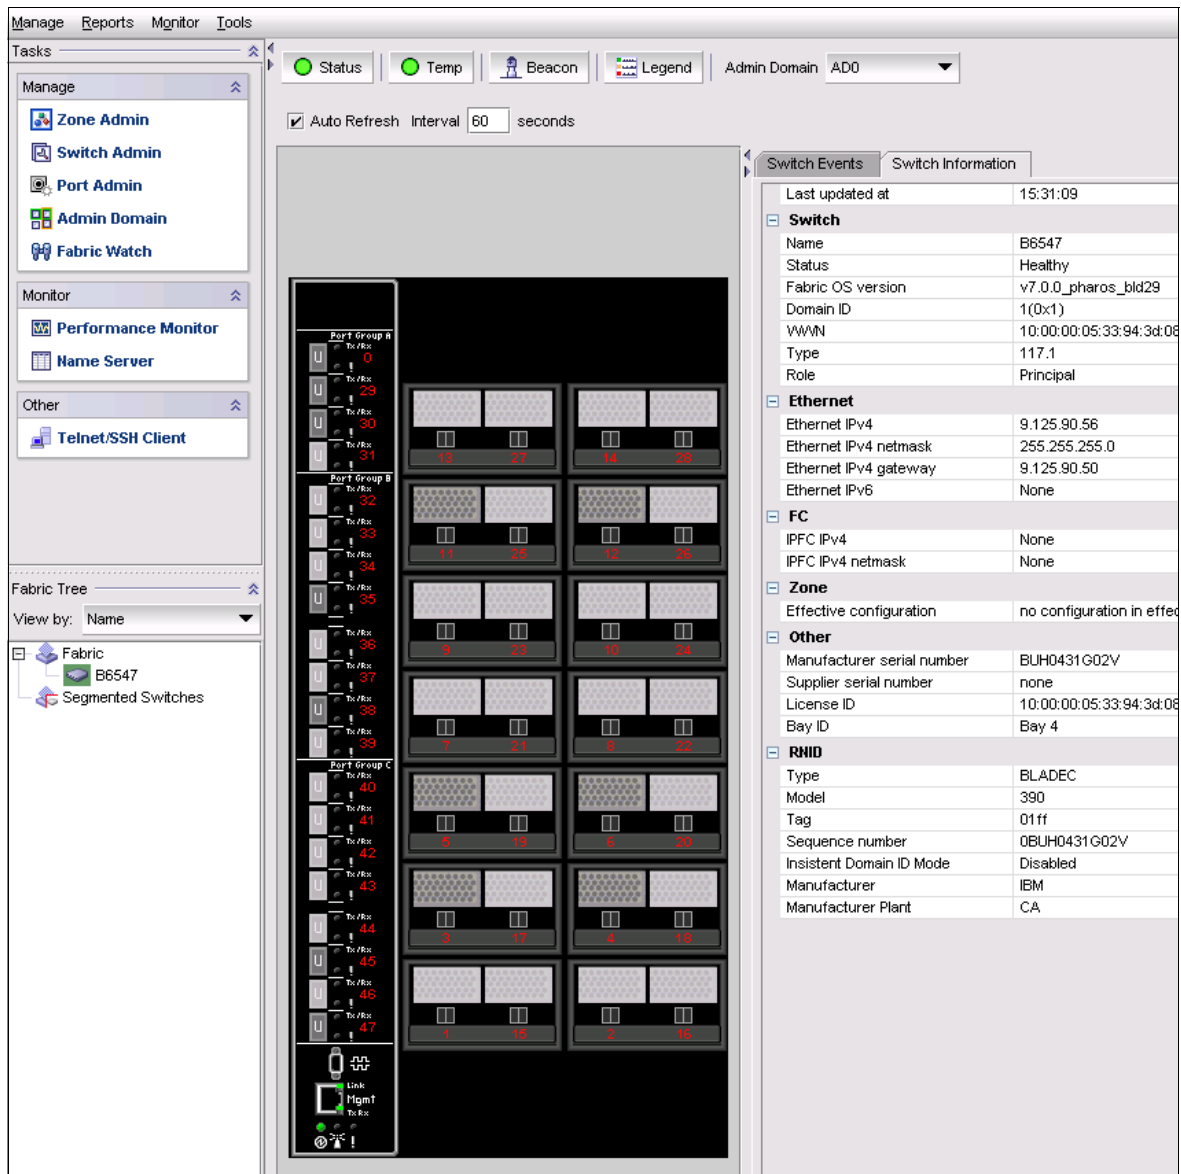

Figure 2-51 Web interface for the FC5022 16Gb SAN Scalable Switch
3. Select the SAN switch module (in this example, it is an FC5022 16Gb SAN Scalable Switch). Click **Actions** → **Launch IOM Console**. The web interface for the switch opens, as shown in Figure 2-51.